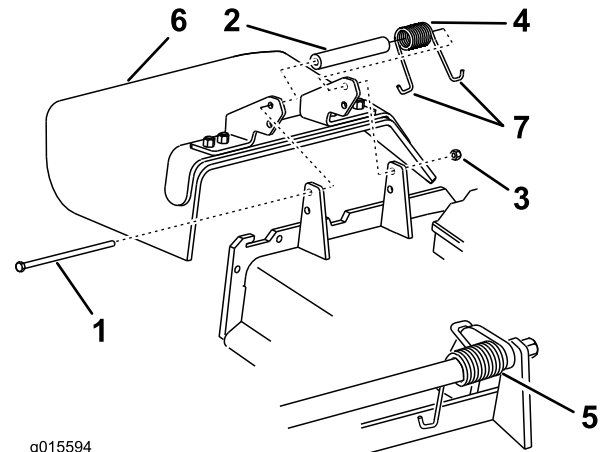

Figure 106
Note: Make sure that one **J** end of the spring is installed behind the deck edge before installing the bolt as shown in Figure 106.
4. Install the bolt and the nut. Place one **J** hook end of the spring around the grass deflector (Figure 106).